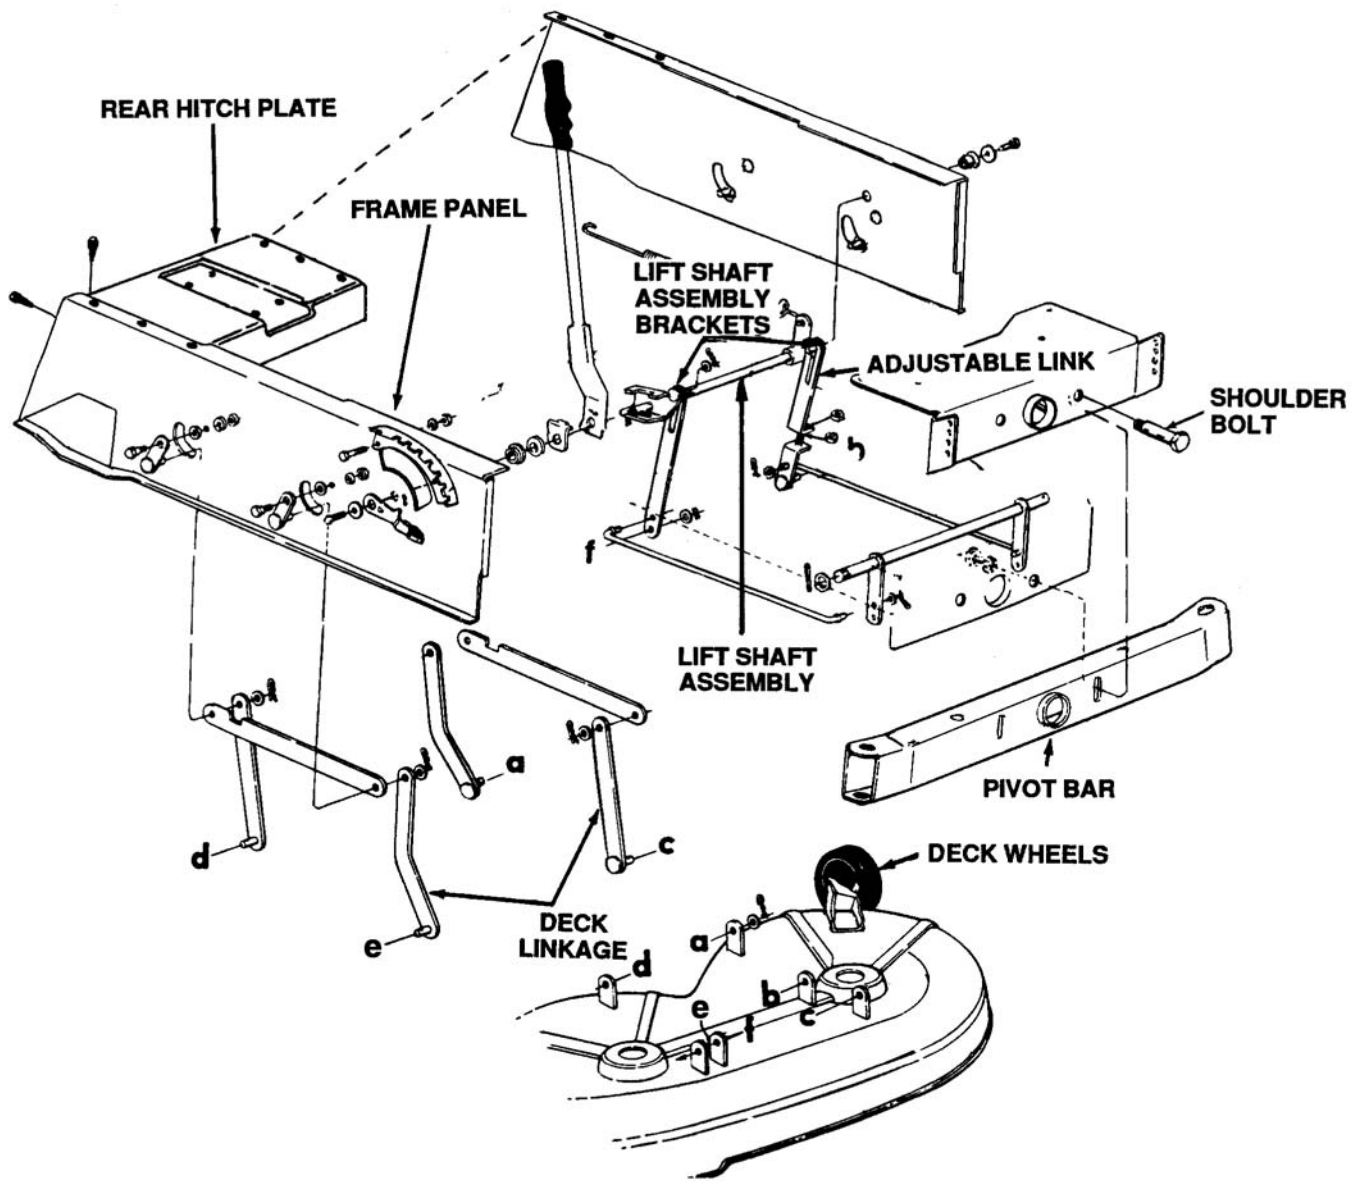

Figure 12-3. Lift Shaft Assembly
- d. Brackets on lift shaft must be welded in line with each other. If they are not, the deck will be higher on one side than the other. If this is encountered the lift shaft should be replaced or an adjustable link which is now available can be used to correct the problem. Order part number 16065. See Figure 12-3
- (1) Loosen the 12 self-tapping screws which secure the right and left hand side frame panels to the rear hitch plate.
- (2) Push the frame of the tractor by hand until the tractor is level.
- (3) Tighten the self-tapping screws.